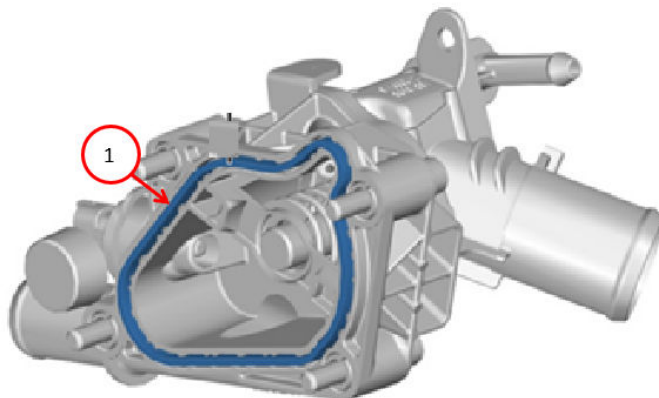

Fig. 3
1. Remove the thermostatic valve and replace the thermostatic valve gasket Fig. 3. Refer to the detailed service procedures available in DealerCONNECT/Service Library under: Service Info> 1088C40 - Thermostatic Valve - Removal/Replacement - Including necessary procedures.